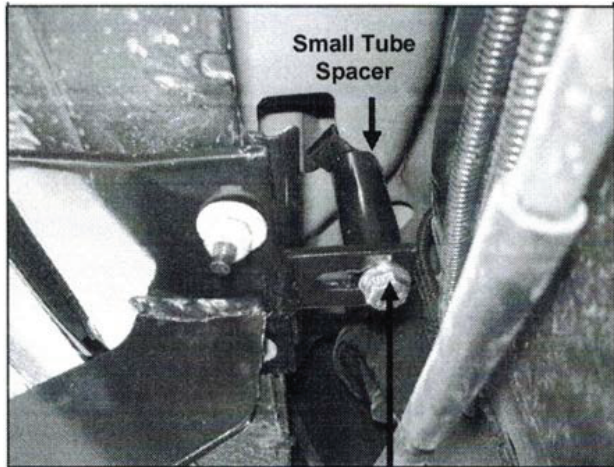

Figure 4
4. Place (1) 25mm x 65mm (smaller) Tube Spacer between the tab on the Mounting Bracket and the already installed Clip Nut. Insert (1) M10 x 100mm Hex Head Bolt through tab on the Mounting Bracket and Tube Spacer and to Clip Nut (Figure 4). Do not tighten at this time.